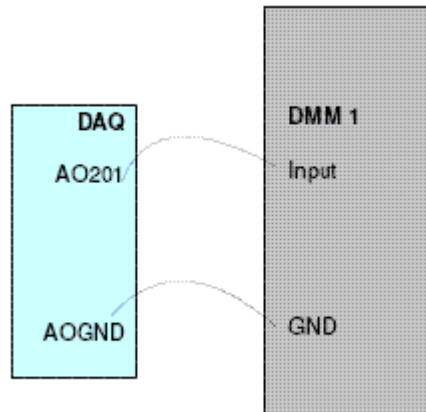
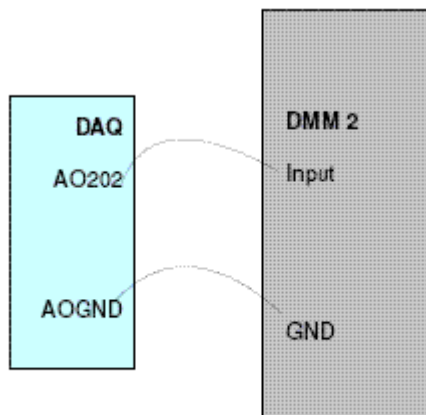

Figure 2-18 Analog output channel A0201 with DMM 1
Figure 2-19 Analog output channel for A0202 for DMM 2
- 4 Connect the DAQ device's analog output channel (AO201) to the first DMM input and AO_GND to the first DMM GND. Repeat the connection for channel AO202 to the second DMM device. See Figure 2-18 and Figure 2-19 for the connection.